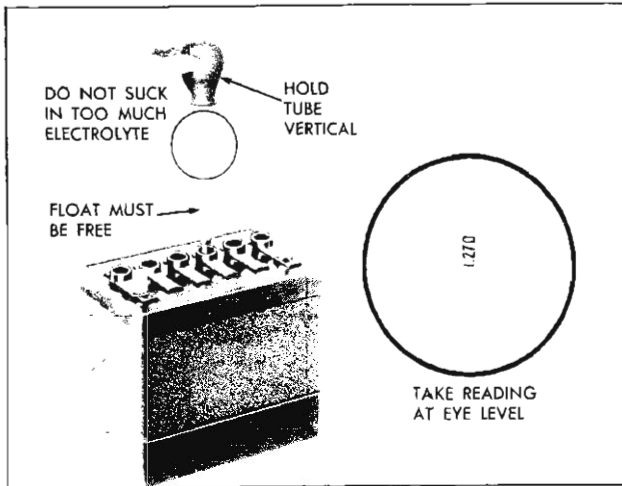

Fig. 3—Testing Specific Gravity of Battery
2. Measure specific gravity of electrolyte in each cell (fig. 3) and compare readings with the following: